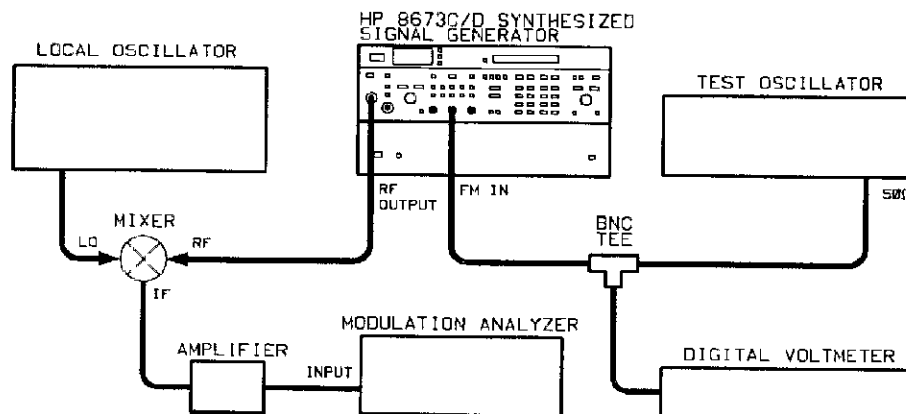

Figure 5-17. FM Accuracy and Overmodulation Adjustment Test Setup
**Procedure** 1. Connect the equipment as shown in figure 5-17.